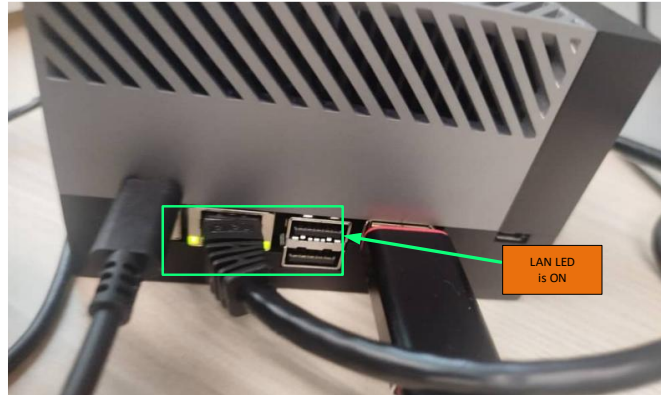

Figure 8.6. LAN Light Indication on Host
- Workaround 2: Confirm that the LAN cable is properly connected to both the SFP module and the host LAN port. If the connection is correct, the LAN indicator light should be **ON** as shown in Figure 8.6.